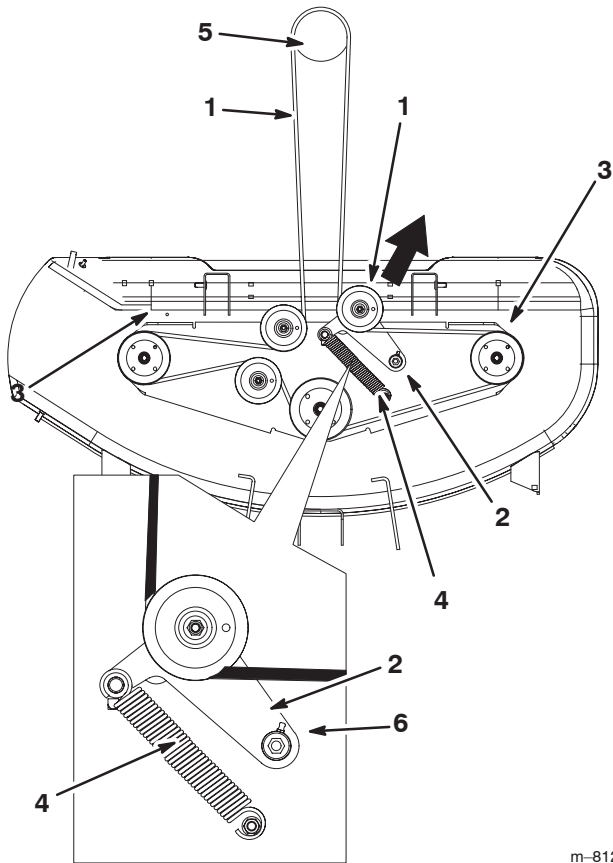

Figure 42
4. Remove the belt covers over the outside spindles and loosen the belt guide (Fig. 42).
5. Pull the idler pulley in the direction shown in Figure 42 and roll the belt off of the pulleys.
6. Route the new belt around the engine pulley and mower pulleys (Fig. 42).
7. Pull the idler pulley in the direction shown in Figure 42 and route the belt onto the idler pulley (Fig. 42).
8. Rotate the belt guide, on the idler arm, towards the pulley until it stops (Fig. 42).
9. Tighten the belt guide (Fig. 42).